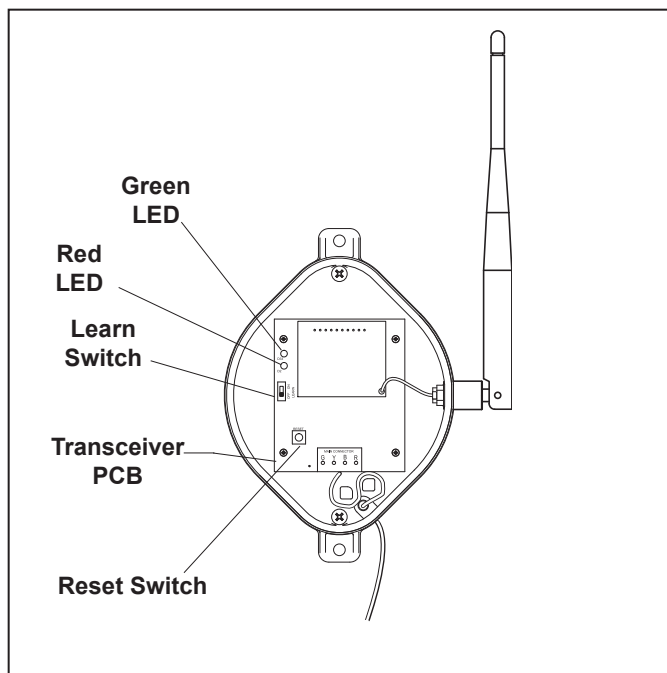

Figure 22. PDA Transceiver J-Box - Internal View
1. At the Transceiver J-box, remove the cover to expose the PCB (see Figure 22).